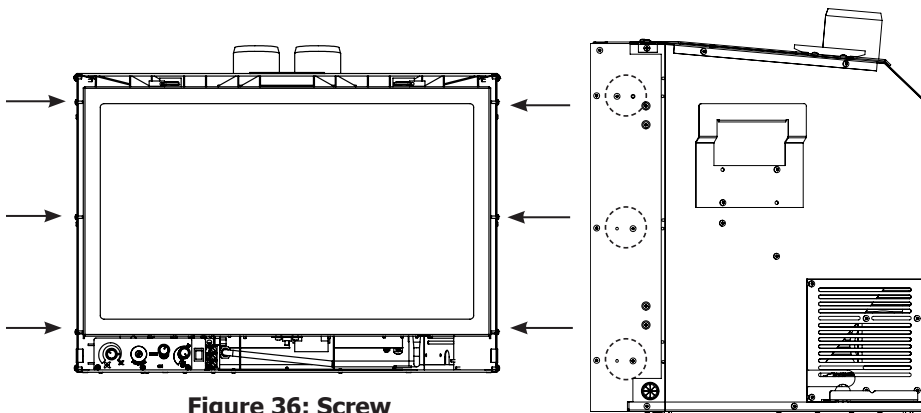

Figure 36: Screw Installation Locations.
1. Install the two Trimmable Panel brackets onto the E30 unit using a T-20 Torx screwdriver. See Figures 36 and 37 for the screw installation locations. There are three sets of hole patterns on the brackets depending on which Surround Panel is being installed. See Figures 38-40.